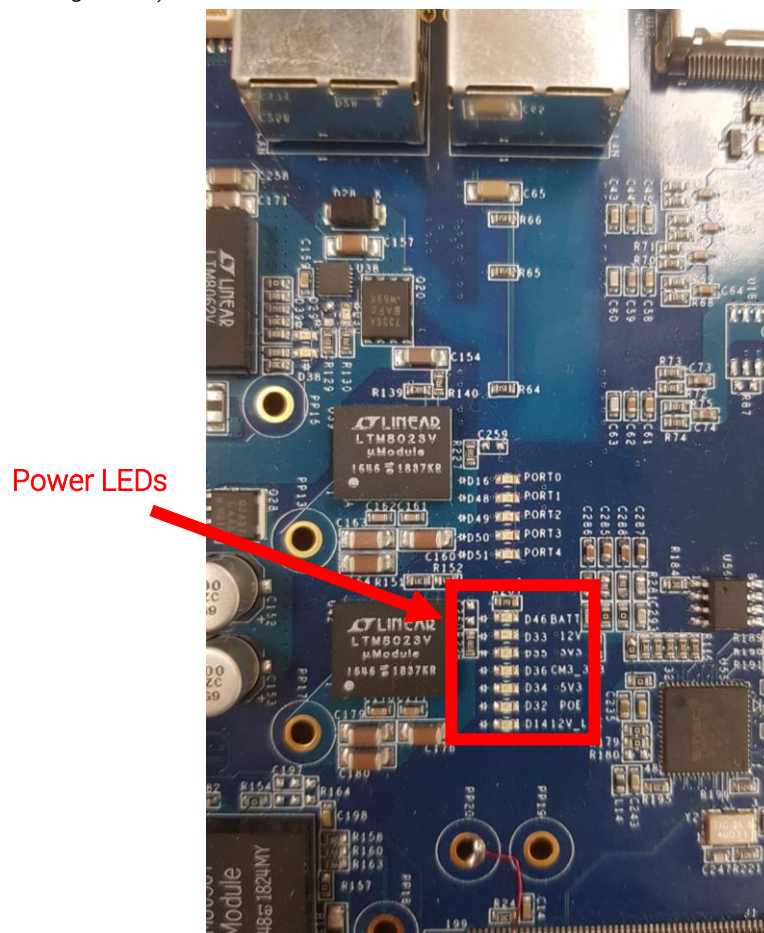

Figure 14 The Power LEDs
5. If the battery was connected correctly, then all the power LEDs (except D32 "POE" LED) should be turned on (see Figure 14).